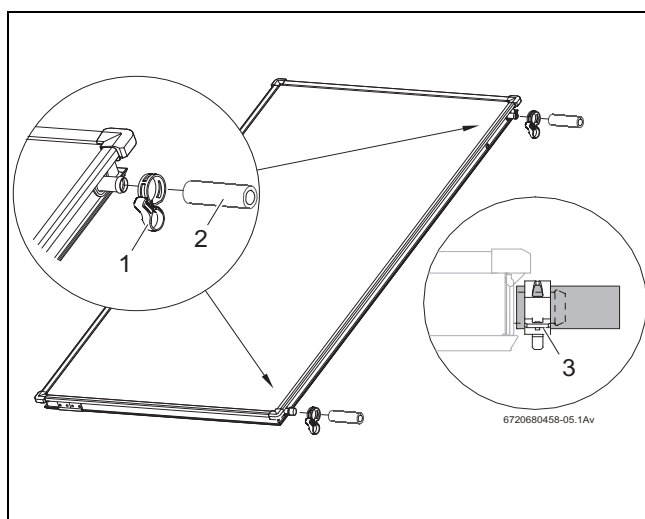

Fig. 34 Pre-assembly of the joining set on the second collector
- ▶ Push the 95 mm solar hoses (Fig. 34, [2]) to the hoses on the right side of the second collector and then to all other following collectors.
- ▶ Push the hose clips (Fig. 34, [1]) over the solar hose (the second clip later secures the connection of the other collector).
- ▶ When the hose clip has been correctly fixed, pull the locking ring to secure the connection (Fig. 34, [3]).